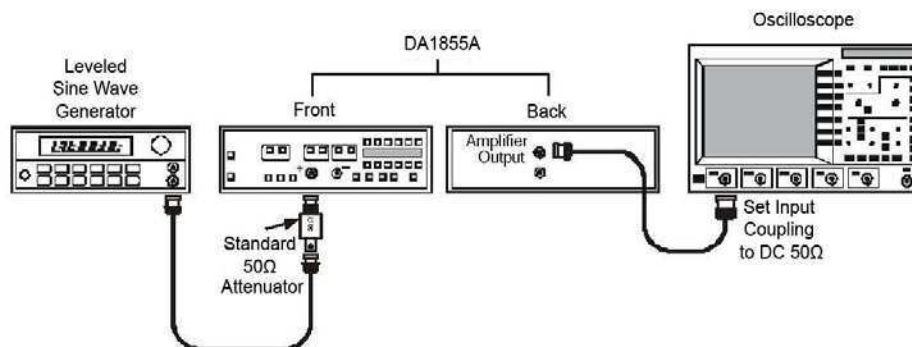

Figure 17, X1 and X10 HF CMRR Check Setup.
- a. Make the set-up the same as used for the bandwidth test (Steps 4 a-e). See Figure 17.